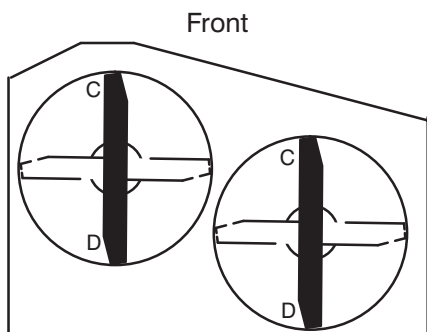
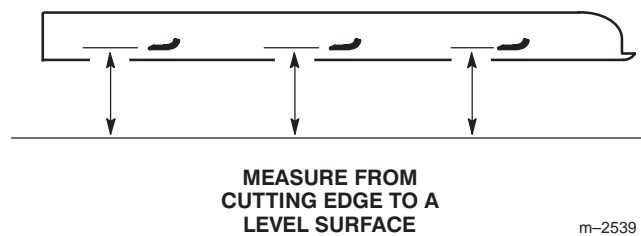

Figure 48
Figure 49
2. Position one blade front-to-rear (Fig. 48). Measure at "C" and "D" locations (Fig. 48) from a level surface to the cutting edge of the blade tips (Fig. 49).
4. Position the blades front-to-rear (Fig. 48). Measure at "C" and "D" locations (Fig. 48) from a level surface to the cutting edge of the blades (Fig. 49).